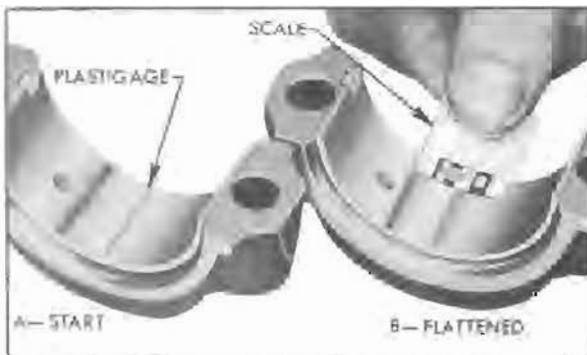

Figure 2-24—Checking Bearing Clearance with Plastigage
3. Place a piece of Plastigage lengthwise along the bottom center of the lower bearing shell (fig. 2-24, view A), then install cap. Tighten bolts to 40-50 ft. lbs. torque on *Series 40-44-50* engine, or to 60-65 ft. lbs. torque on *Series 70* engine. NOTE: *Conical bosses on rod and ribs on cap must be toward rear of engine. If cap has ribs on both sides, place side with single rib to rear.*
6. Using the scale printed on the Plastigage envelope, measure the width of the flattened Plastigage at its widest point. The number within the graduation which most closely corresponds to the width of Plastigage indicates the bearing clearance in thousandths of an inch. See figure 2-24, View B.